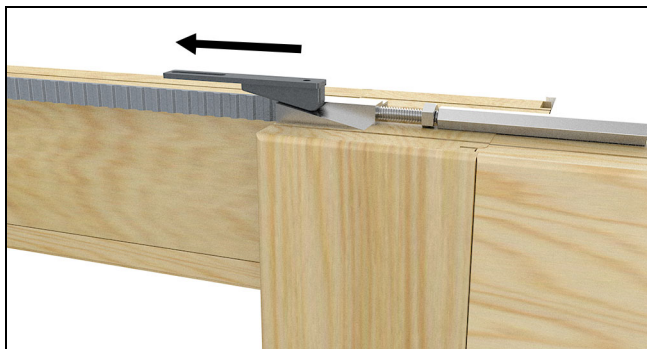

Figure 47
6. Pull the ramp tight so that it fully contacts the turnbuckle. See Figure 47.